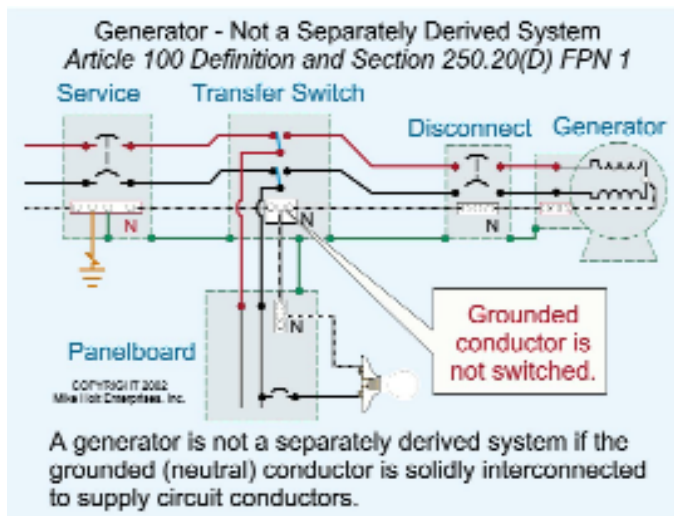

Figure 250-51
**FPN 1:** A generator is not a separately derived system if the grounded (neutral) conductor from the generator is solidly connected to the supply system grounded (neutral) conductor. In other words, if the transfer switch does not open the neutral conductor, then the generator will not be a separately derived system. Figure 250-51
**AUTHOR'S COMMENT:** This fine print note points out that when a generator is not a separately derived system, the grounding and bonding requirements contained in 250.30 do not apply and a neutral-to-case connection shall not be made at the generator [250.6(A) and 250.142].